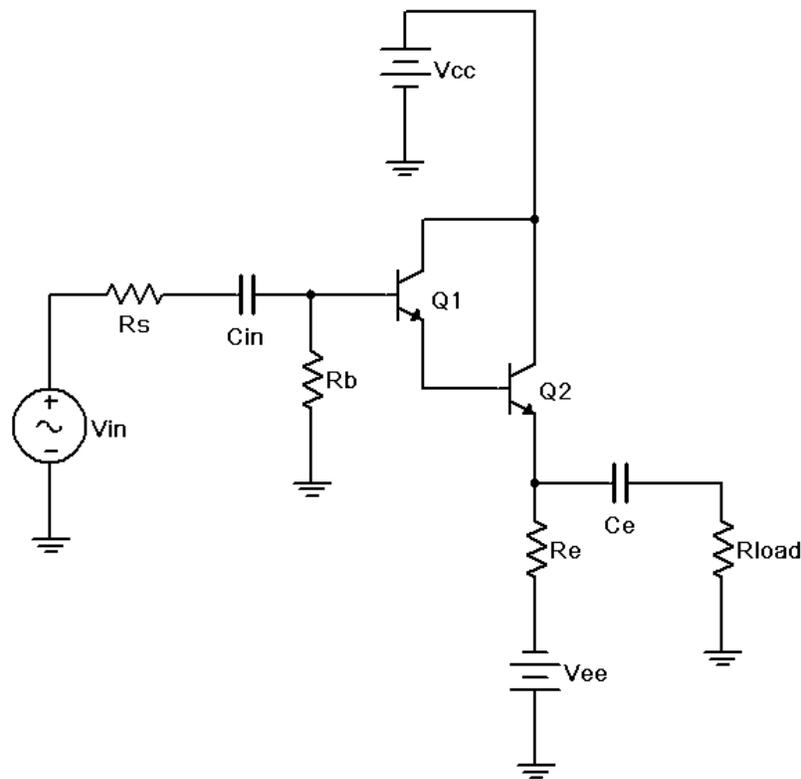

Figure 1
1. Consider the circuit of Figure 1 using  $V_{cc} = 5$  volts,  $V_{ee} = -12$  volts,  $R_s = 22$  k $\Omega$ ,  $R_b = 470$  k $\Omega$ ,  $R_e = 1$  k $\Omega$ ,  $R_{load} = 220$   $\Omega$ ,  $C_{in} = 10$   $\mu$ F and  $C_e = 470$   $\mu$ F. Using the approximation of a negligible DC base voltage, determine the DC collector current and  $r'_e$ , and record these in Table 1. Using the  $r'_e$ , calculate the expected  $Z_{in}$ ,  $Z_{in(base)}$ ,  $Z_{out}$  and  $A_v$ . Record these in Table 2. If a transistor curve tracer or beta checker is not available to get an approximate value of beta for the transistors, estimate the pair at 10,000.
2. Build the circuit of Figure 1 using  $V_{cc} = 5$  volts,  $V_{ee} = -12$  volts,  $R_s = 22$  k $\Omega$ ,  $R_b = 470$  k $\Omega$ ,  $R_e = 1$  k $\Omega$ ,  $R_{load} = 220$   $\Omega$ ,  $C_{in} = 10$   $\mu$ F and  $C_e = 470$   $\mu$ F. Disconnect the signal source and check the DC transistor voltages to ensure that the circuit is biased correctly. (Note: The base should be close to zero while the emitter will be two  $V_{BE}$  drops less, or about  $-1.4$  VDC.)